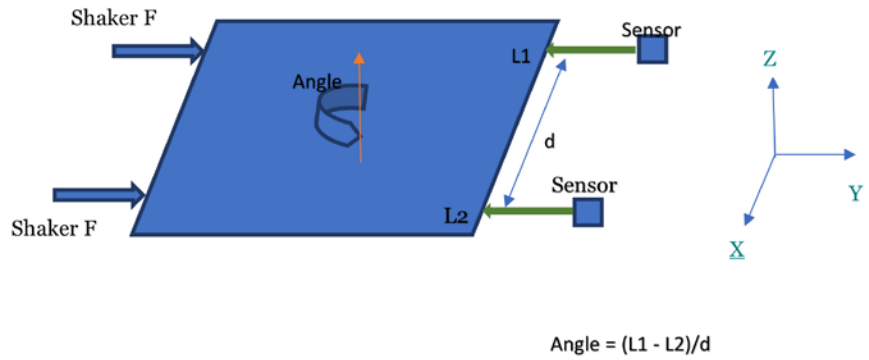

Figure 1.3
**Horizontal push-push with 2 displacement sensors.** The yaw rotation angle can be computed from two displacement sensors. (Figure 1.3)